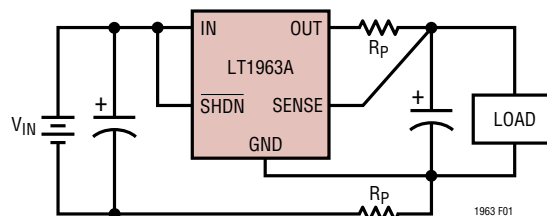

Figure 1. Kelvin Sense Connection
**SENSE:** Sense. For fixed voltage versions of the LT1963A (LT1963A-1.5/LT1963A-1.8/LT1963A-2.5/LT1963A-3.3), the SENSE pin is the input to the error amplifier. Optimum regulation will be obtained at the point where the SENSE pin is connected to the OUT pin of the regulator. In critical applications, small voltage drops are caused by the resistance ( $R_P$ ) of PC traces between the regulator and the load. These may be eliminated by connecting the SENSE pin to the output at the load as shown in Figure 1 (Kelvin Sense Connection). Note that the voltage drop across the external PC traces will add to the dropout voltage of the regulator. The SENSE pin bias current is  $600\mu\text{A}$  at the nominal rated output voltage. The SENSE pin can be pulled below ground (as in a dual supply system where the regulator load is returned to a negative supply) and still allow the device to start and operate.